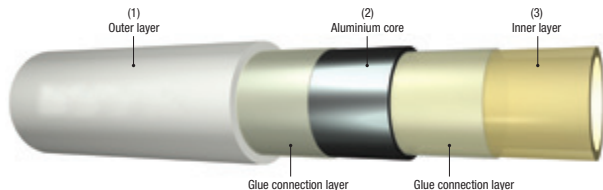

FIGURE 3.3
VSH multi-layer tubes (Multicon, MultiSkin and Henco) are plastic tubes with an aluminium core (Figure 3.3). The tube consists of an inner layer of PE-Xc (3) and an outer layer of PE-Xc (1) with an aluminium layer in between (2), which is fastened to the inner and outer layer with glue. This aluminium layer is fully closed with butt welding. Multicon and Henco multi-layer tubes have a diffusion barrier thanks to the fully sealed aluminium layer.